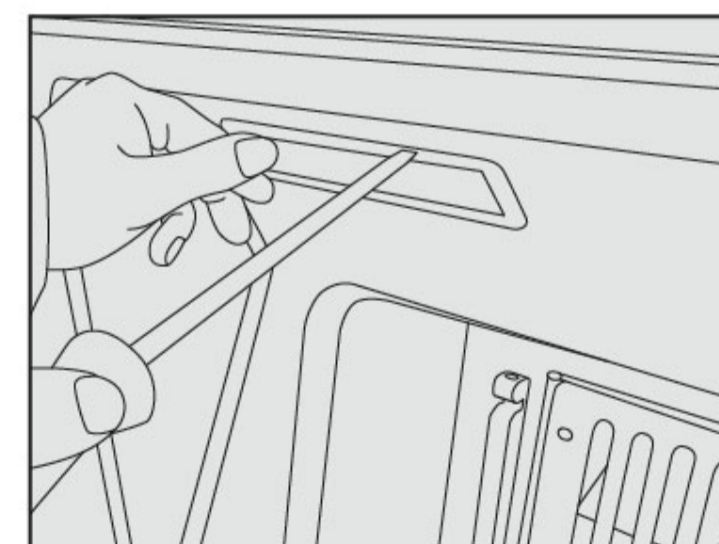
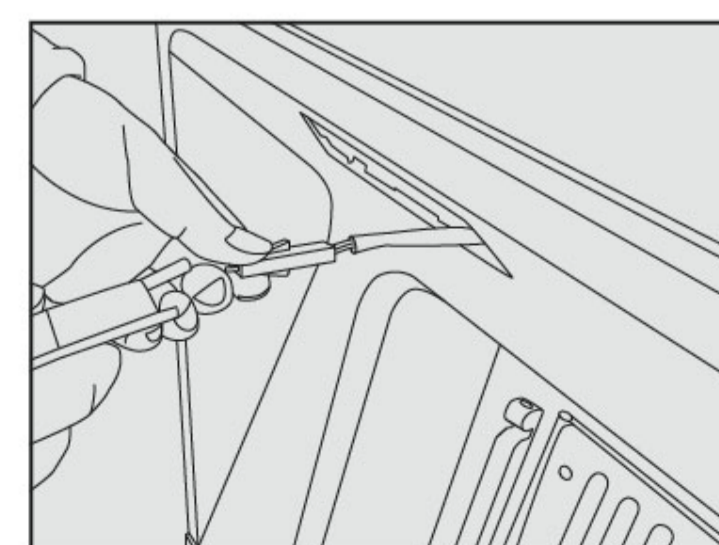

Figure 1
Figure 2
1. Hold up the LED light with the left hand, insert a small straight screwdriver into the margin of the LED light with the right hand (Figure 1), slightly prize downward to take down the LED light, and open the wire socket (Figure 2);